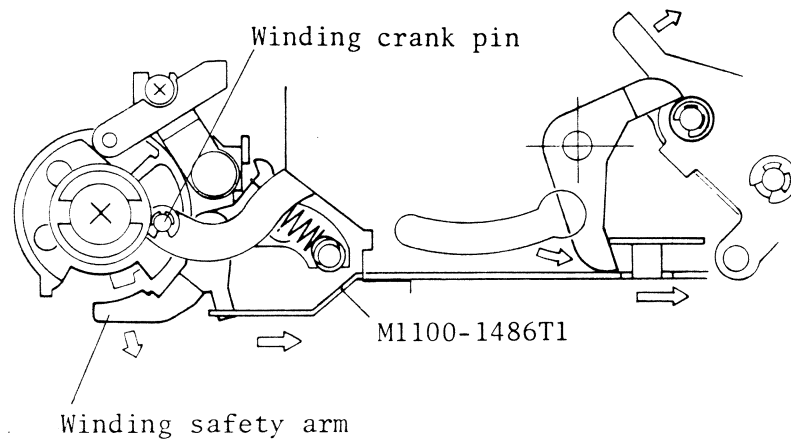

Fig.13
5. Check that the winding safety arm is coupled with winding stop slide. (Fig. 13)